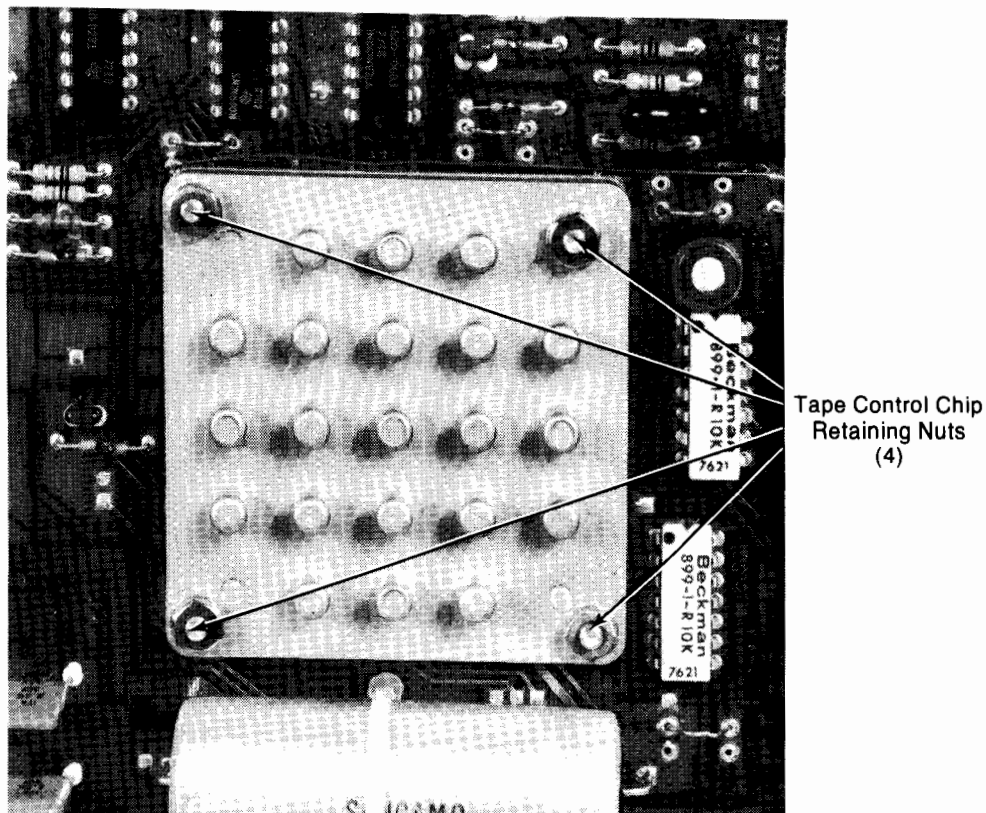

Figure 4-15: Tape Control Chip
1. Remove the four retaining nuts and heat sink, shown in Figure 4-15.